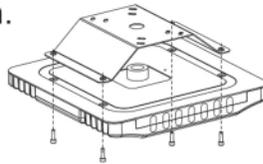

Figure 6
1. Fix the mounting bracket on the back of fixture by supplied screws. (Figure 6)